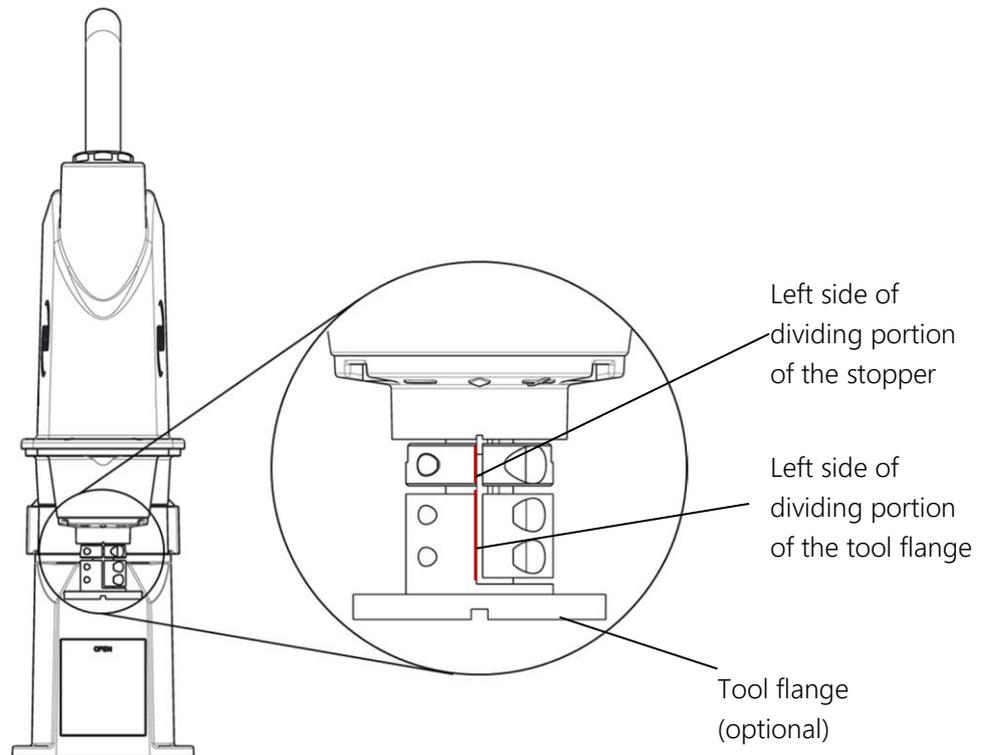

Fig. 8.8 Fitting the Tool Flange
- 1) Fit the tool flange (optional) so that the left side of the dividing portion of the stopper is aligned with the left side of the tool flange as shown in Fig. 8.8